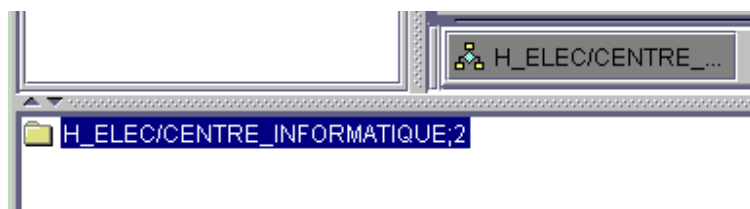

Figure 124 : Systems edition management
- The system is displayed in the left bottom part of the screen; select the system with the mouse (Figure 124).